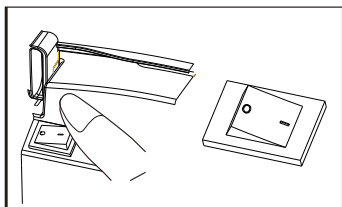

Figure 8
8. Turn on the nebulizer by pressing the power switch to the I (ON) position and begin treatment.(See Figure 8)